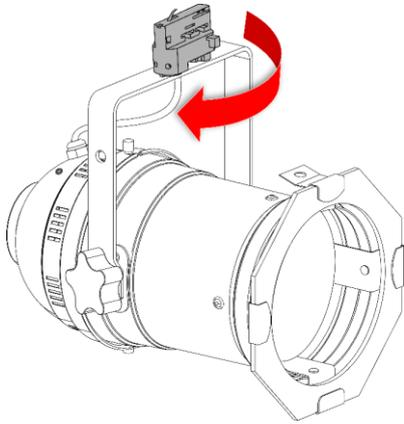
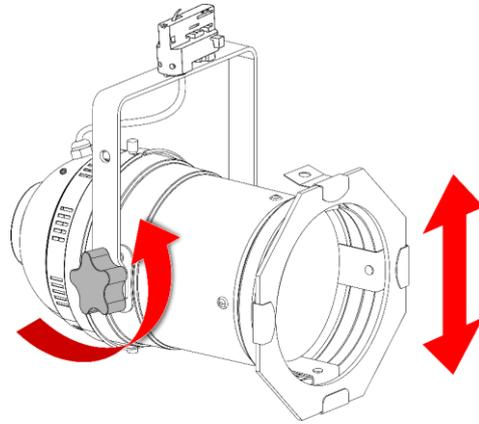

Fig. 13
Fig. 14
- 01) Pivot the device around the **track adapter (01)** to adjust the direction of the beam (see Fig. 13).
- 02) Turn the **adjustment screw (08)** counterclockwise to release it.
- 03) Tilt the device at the desired angle (see Fig. 14).
- 04) Turn the **adjustment screw (08)** clockwise to tighten it. Make sure that the device cannot move freely after the **adjustment screw (08)** is tightened.